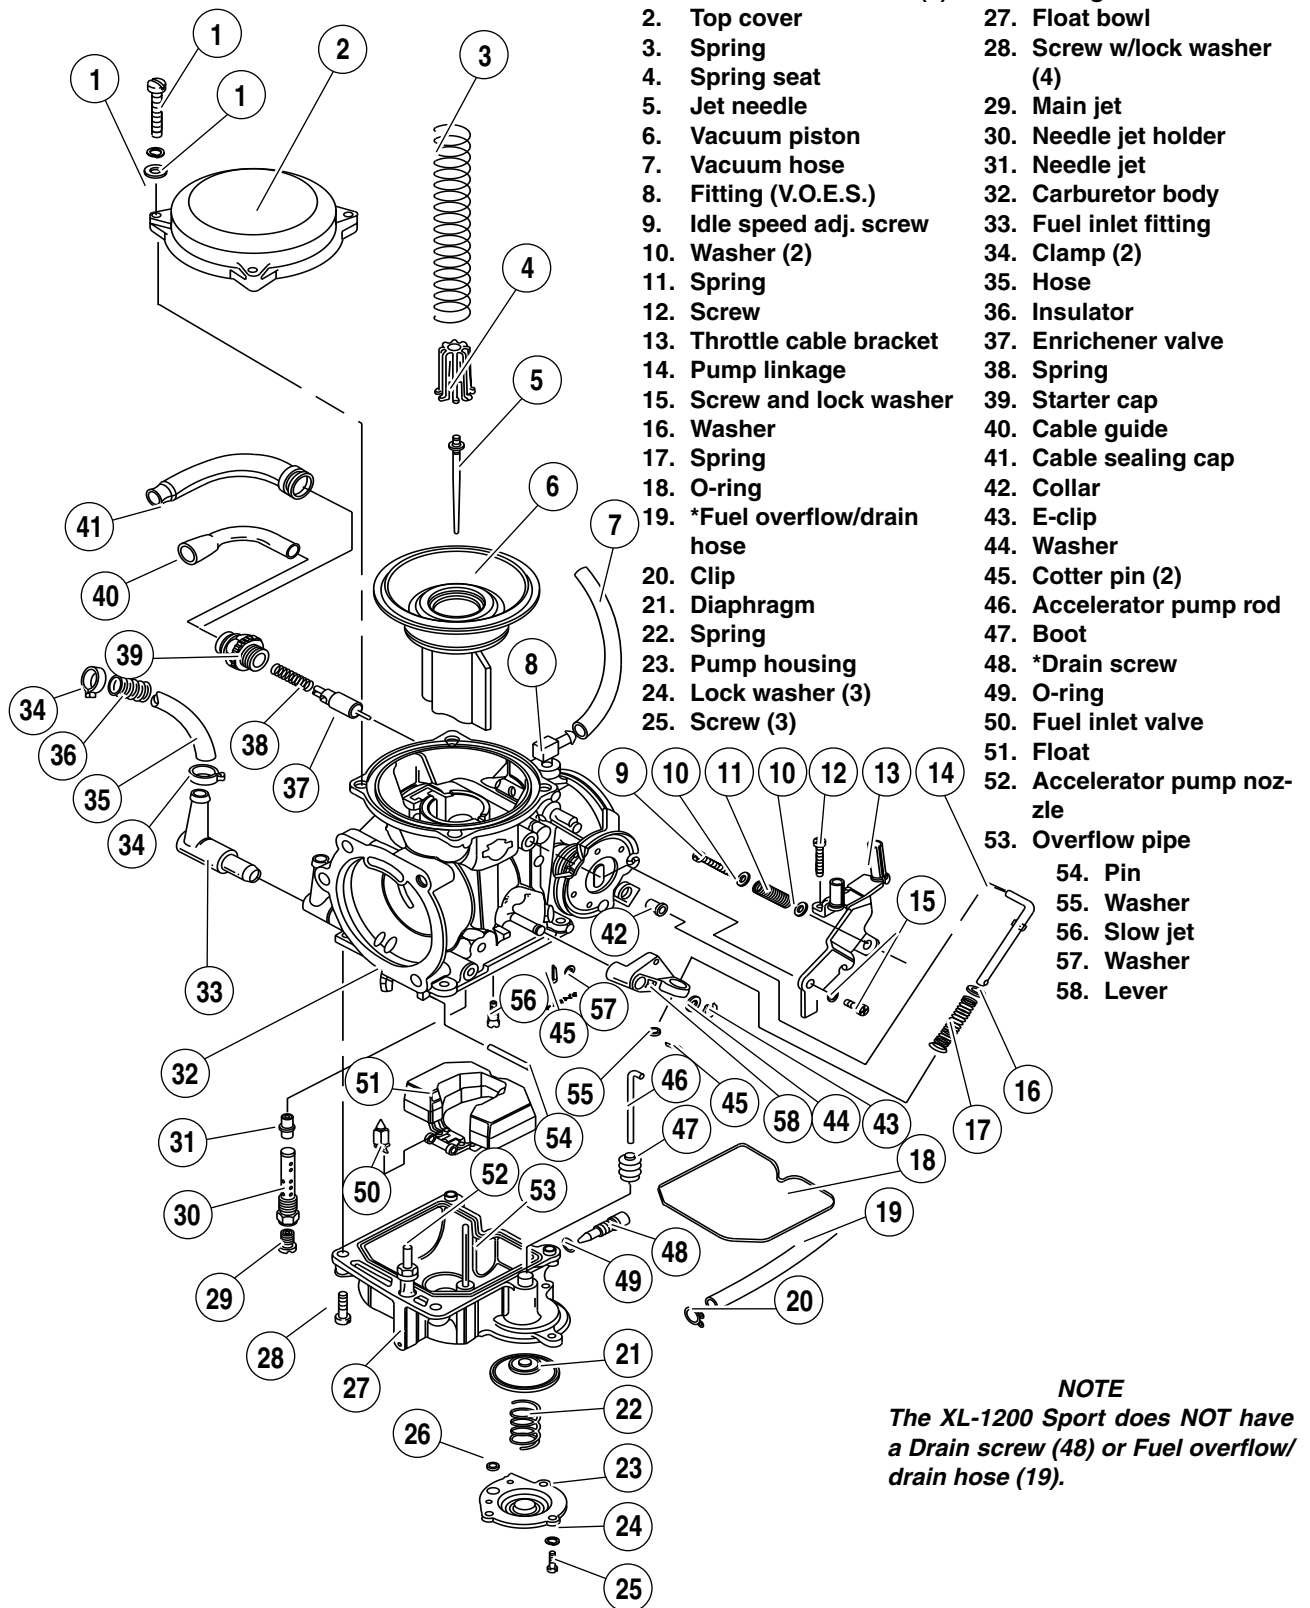

Figure 4-5. Constant-Velocity (CV) Carburetor
1. See Figure 4-5. With air cleaner cover off and engine running, twist throttle control partially open and closed several times while observing whether or not vacuum piston (6) has upward movement. If piston does not rise, see VACUUM PISTON.
2. With engine not running, lift vacuum piston (6) with finger. Feel whether piston lifts fully and smoothly or whether there is a binding condition.
4. See Figure 4-5. Disconnect fuel overflow/drain hose (19) from fuel overflow fitting (except XL-Sport). Disconnect vacuum hose from V.O.E.S. fitting. Disconnect enrichener valve assembly.
1. See Figure 4-5. Remove four screws and washers (28). Remove float bowl assembly.
1. See Figure 4-5. Hold vacuum piston (6) up to strong light. Examine diaphragm at top of vacuum piston for evidence of pinching, holes or tears. Replace if damaged.
1. See Figure 4-5. Check float bowl O-ring for any distortion or damage. Replace if seating surfaces are damaged.
1. See Figure 4-5. Inspect the accelerator pump diaphragm for holes, cracks or deformation. Replace as necessary.
1. See Figure 4-5. Place needle through center hole in vacuum piston. Place spring seat over top of needle.
1. See Figure 4-5. Thread slow jet into slow jet passage with narrow-bladed screwdriver.
See Figure 4-5. Install diaphragm, spring, O-ring and pump housing. Secure with three screws and lock washers.
10. See Figure 4-5. Connect fuel overflow/drain hose to fuel overflow fitting. Connect vacuum hose to V.O.E.S. fitting. Connect enrichener valve assembly to carburetor body.
See Figure 4-5. On non-California models, route fuel overflow/drain hose from the carburetor fuel overflow fitting downward and forward through the space between the engine front cylinder and the front cylinder push rod covers (intake and exhaust), and then downward through the space between the engine crankcase and the oil filter.